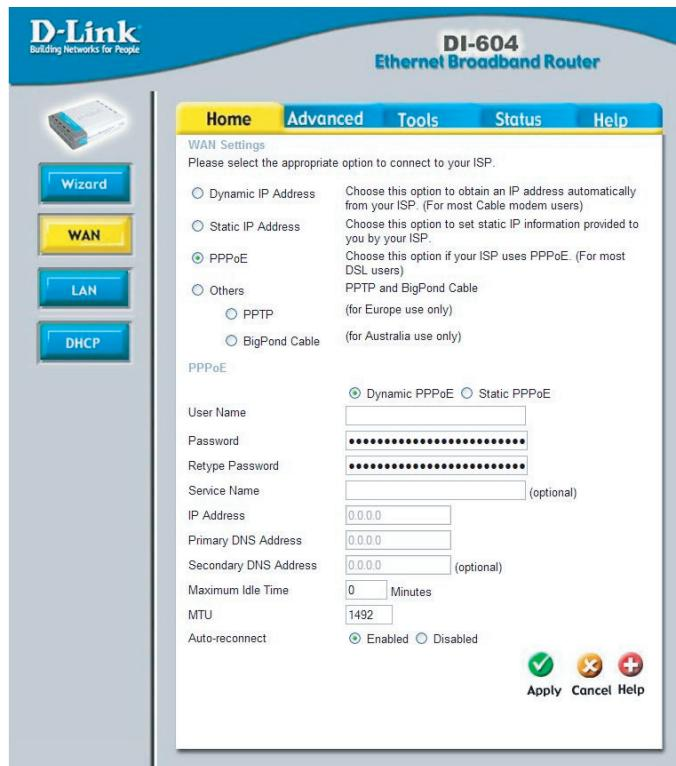

FIGURE 2-7 - PPPoE EXAMPLE SCREEN
**PPPoE - (Used by many DSL modems) See Figure 2-7.**